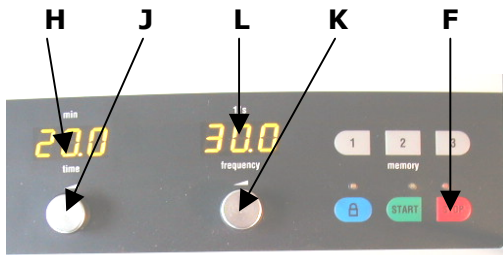

Fig.3
- The LED above STOP **F** flashes briefly after the machine has been turned on. **Fig.3**
Set time to 10 sec - 99 minutes: Fig.3
Set frequency to 3 - 30 Hz: Fig.3